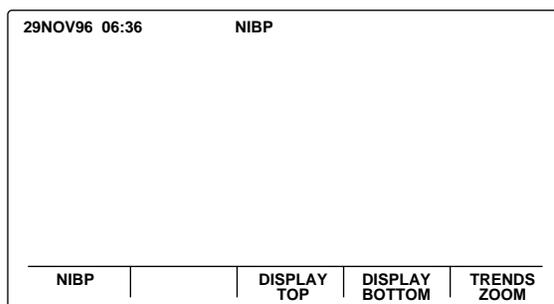

Figure 3-11: NIBP Display
7. Verify that "NIBP" appears at the top center of the screen, similar to the one illustrated in Figure 3-11.